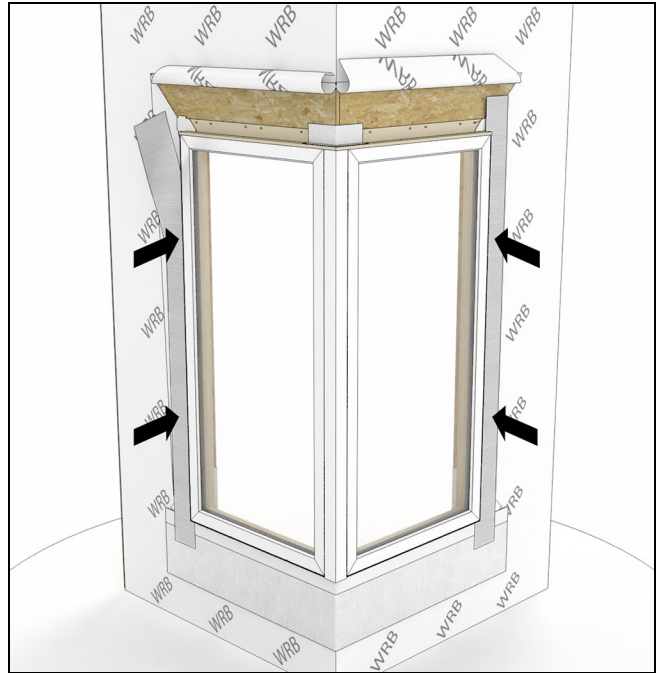

Figure 61
4. Lap vertical strips of self adhered flashing membrane onto the unit or casing and out over the air barrier. See Figure 61.